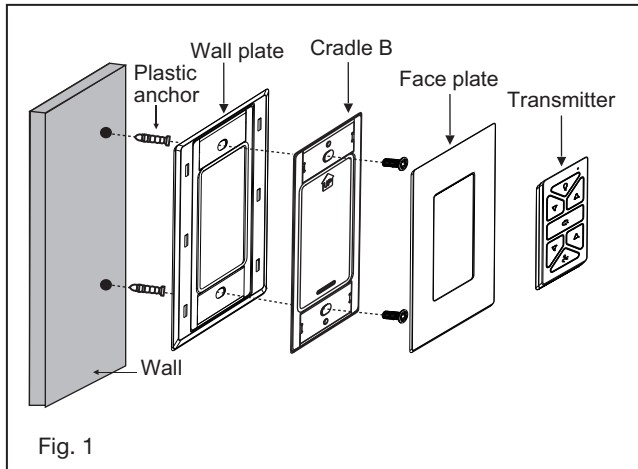

Fig. 1
- 1 Remove ball from downrod by loosening set screw in the side of the ball. Slide ball down and remove ball pin; remove ball. (Fig. 1)
1. Insert the receiver into the ceiling mounting bracket with the flat side of the receiver facing the ceiling. (Fig. 1) For best performance, make sure the Black Antenna and WIFI Antenna, on the end of the receiver, remains extended and not tangled with any of the electrical wires.
- 1 Select a desired location. Use the wall plate to mark the location of the mounting holes. Plastic wall anchors or mounting screws are needed for this application. (Fig. 1)
Remove the panel from the transmitter and then install one 2032 battery (included). You need to use a coin to open or close the battery cover. To prevent damage to transmitter, remove the battery if not use for long periods of time (Fig. 1)